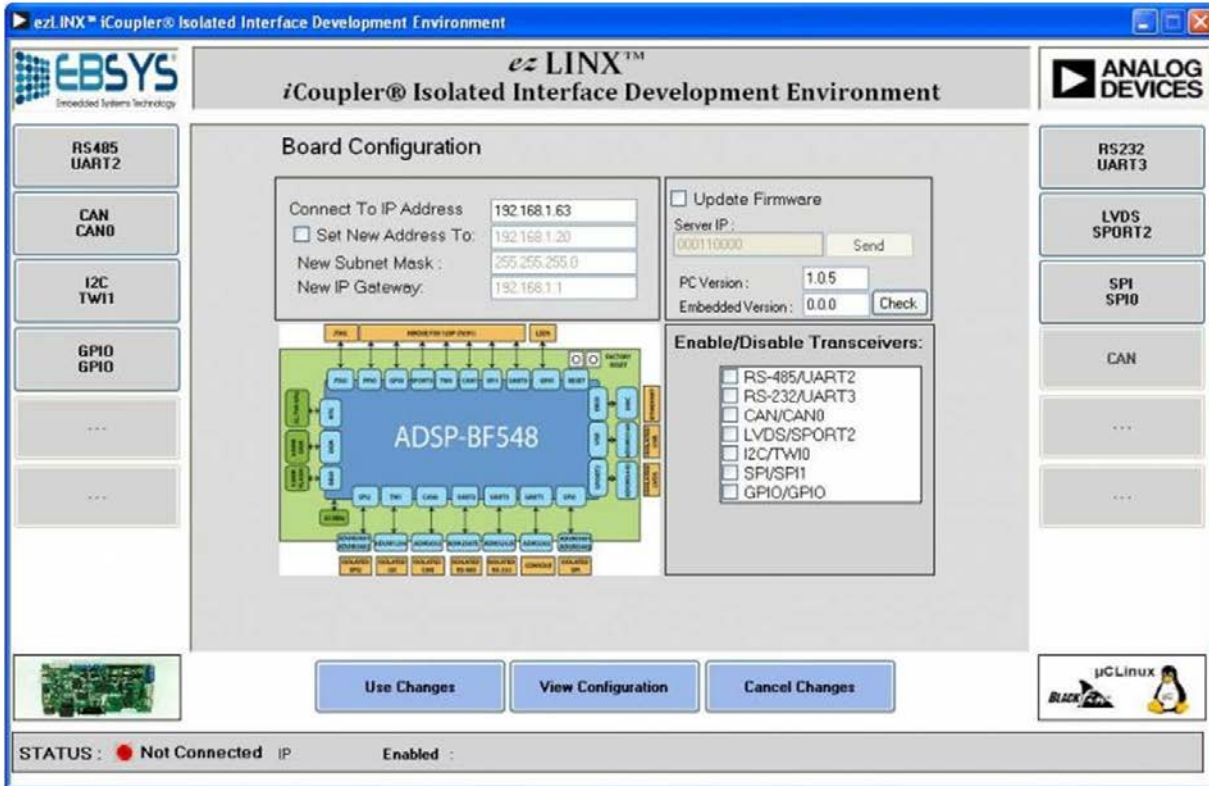
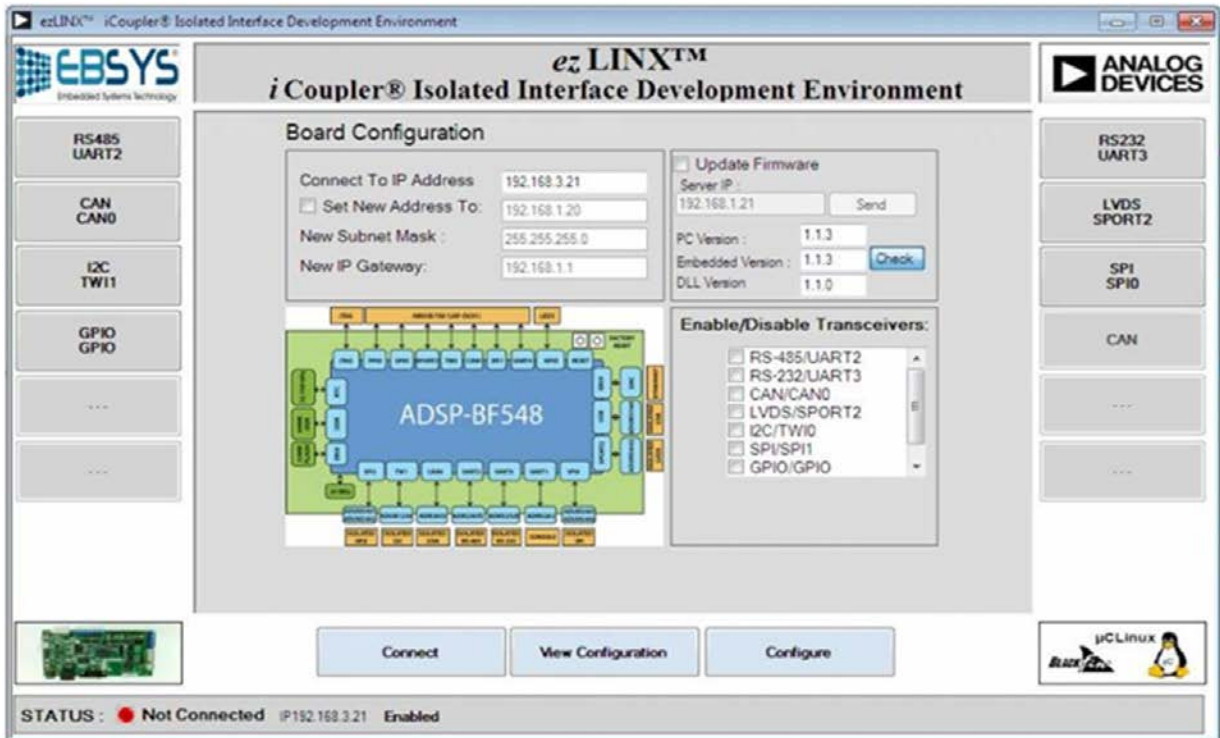

Figure 3. Board Configuration Window Accessed by Clicking Configure
Figure 4. Board Configuration Window Accessed by Clicking the Image of the ezLINX Hardware Platform
Clicking **Configure** opens the **Board Configuration** window (see Figure 3 and Figure 4), which allows
- Click **Configure** (see Figure 3).
- Click the image of the ezLINX hardware platform on the bottom left of any window in the application software (see Figure 4).